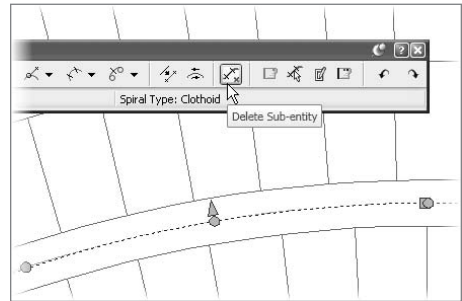

Figure A.51
6. Select the Draw Fixed Line - Two Points tool, and snap to the center of the two circles shown in Figure A.51. Be sure to pick from left to right to get the direction correct.